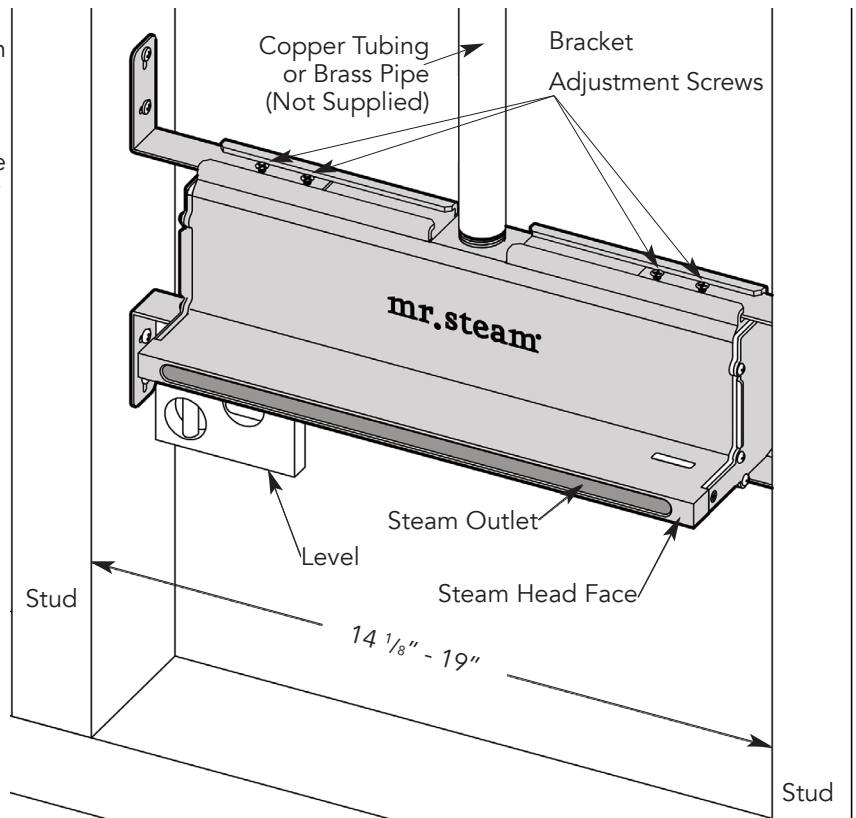

Figure 3
CAUTION Only install the linear steam head in a horizontal orientation as shown in fig 3. Failure to follow these instructions may result in a leak within the wall cavity and cause problems associated with leaks, moisture and property damage from leaks. Failure to follow these instructions may result in a hazardous condition, scalding or personal injury.
STEP 3. Position the steam head between 2 properly spaced studs. Extend the adjustable brackets as required so the steam head fits snugly between two studs. Use a level to ensure the steam head is level (see Fig. 3). Tighten the eight bracket adjustment screws (supplied).